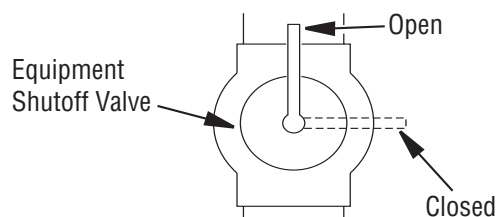

Figure 14 - Equipment Shutoff Valve
1. Close equipment shutoff valve (*see Figure 14*).
1. Open equipment shutoff valve (*see Figure 14*).
- Close equipment shutoff valve (see **Figure 14, Page 10**).